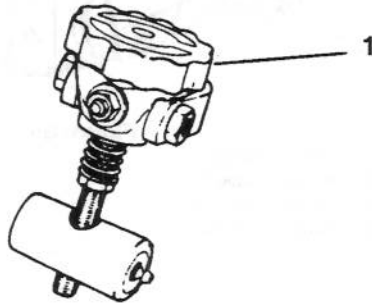
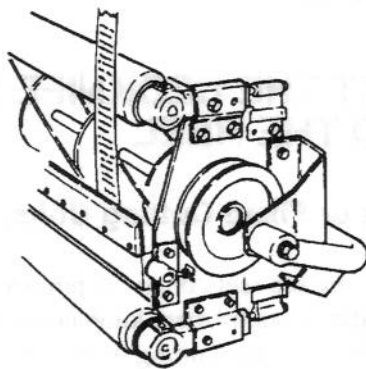

Figure 40
Figure 41
1. Make sure the reel contact is removed by turning the bedknife adjustment knob counterclockwise (Fig. 40). Tip the cutting unit to gain access to the reel and the bedknife (Fig. 41).
down until the paper is pinched along the entire bedknife surface when the bedknife adjustment knob is adjusted to no more than two clicks beyond first contact of the reel bedknife (Fig 41).